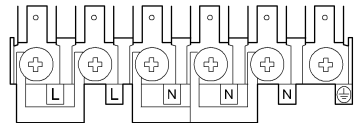

Fig.2.
- Make connection as shown in Fig 2 by proceeding as follows:-
- Clamp bare wires into the relevant terminal (Fig. 2.) and check they are held by tugging each one in turn.
ENSURE THAT THE LINKS ARE FITTED AS SHOWN IN FIG.2.